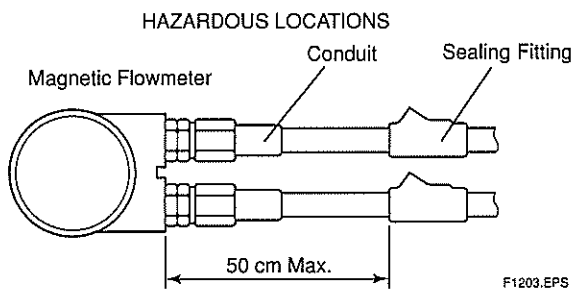

Figure 12.3.1 Conduit Wiring
**(2) Installation****For CSA C22.2 Series****! WARNING**
- In hazardous location, wiring shall be in conduit as shown in Figure 12.3.1.